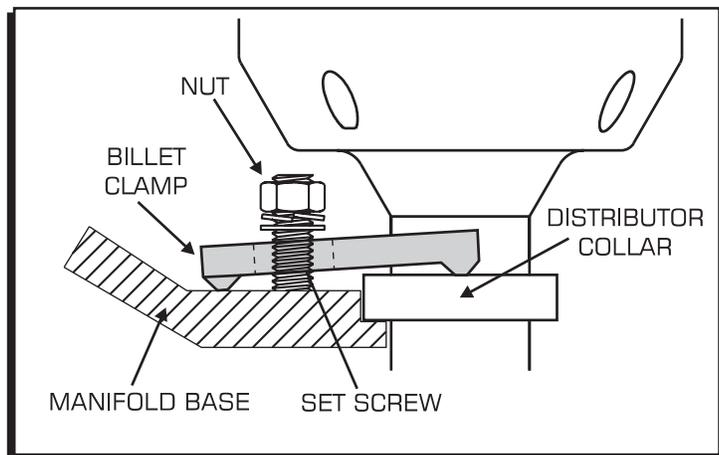

Figure 1 Correct Billet Hold Down Installation.
3. Position the clamp on the distributor collar and tighten the nut. Figure 1 shows the correct installation of the clamp. If the clamp is excessively angled and the end points of the clamp do not properly seat, the clamp will not tighten properly.